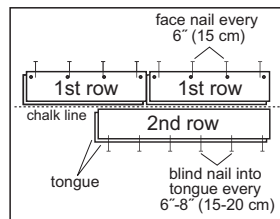

Figure 8
- Use a pneumatic brad nailer to face-nail the groove side 1/2" (13 mm) from the edge of the wall at 6" (15 cm) intervals and 1'-2" (2.5-5 cm) from each end then face-nail at a 45° angle down through the nailing "pocket" on top of the tongue (Figure 8). OR pre-drill the nail holes 1/2" (13 mm) from the back (groove) edge, 1'-2" (2.5-5 cm) from each end, and at 6" (15 cm) intervals. Pre-drill at the same intervals at a 45° angle down through the nailing "pocket" on top of the tongue (Figure 8). Face-nail the groove side where pre-drilled. When complete, blind-nail at a 45° angle through the tongue of the first row. Fasten using 4 or 6d nails. Countersink nails to ensure flush engagement of the groove. Avoid bruising the hardwood by using a nail set to countersink the nails. Continue blind-nailing using this method with following rows until the stapler can be used.